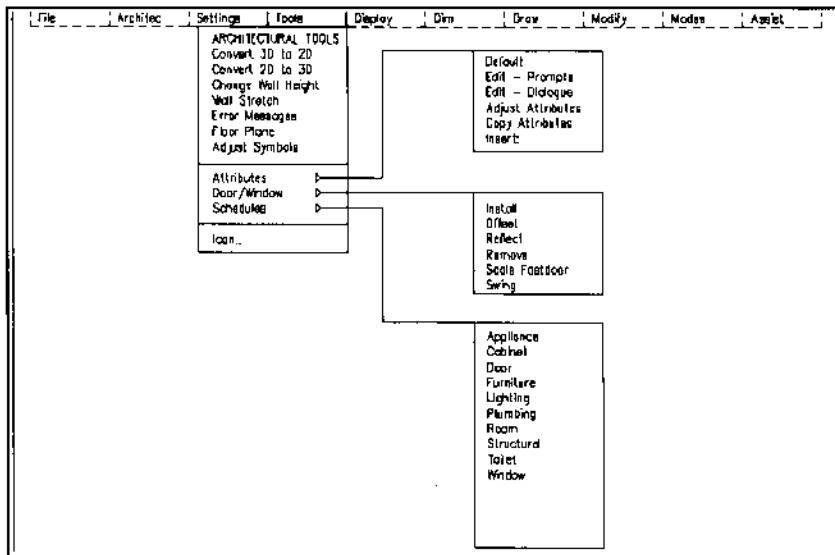

Figure 5.
5. Most symbols are available in 2D and 3D. They can be converted by selecting the Convert 3D to 2D or Convert 2D to 3D command from the Tools pull-down menu shown in Figure 5. The tools pull-down menu also provides commands for controlling attributes, manipulating doors or windows, and creating schedules.